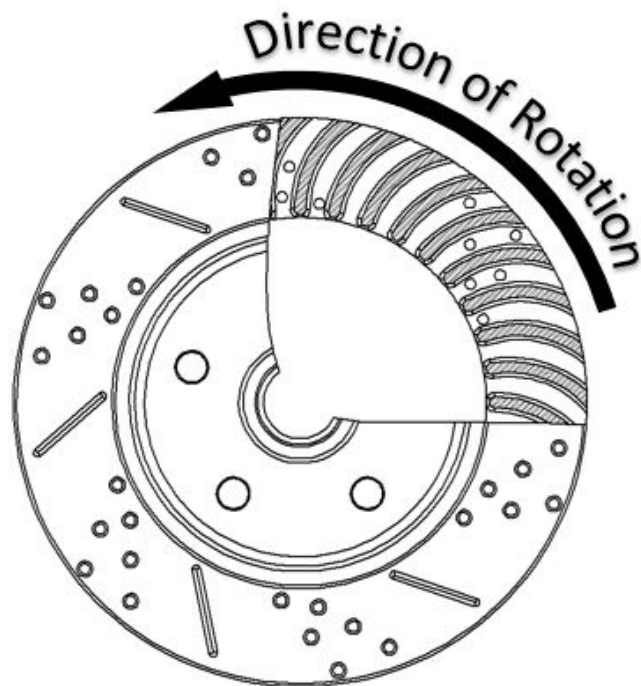
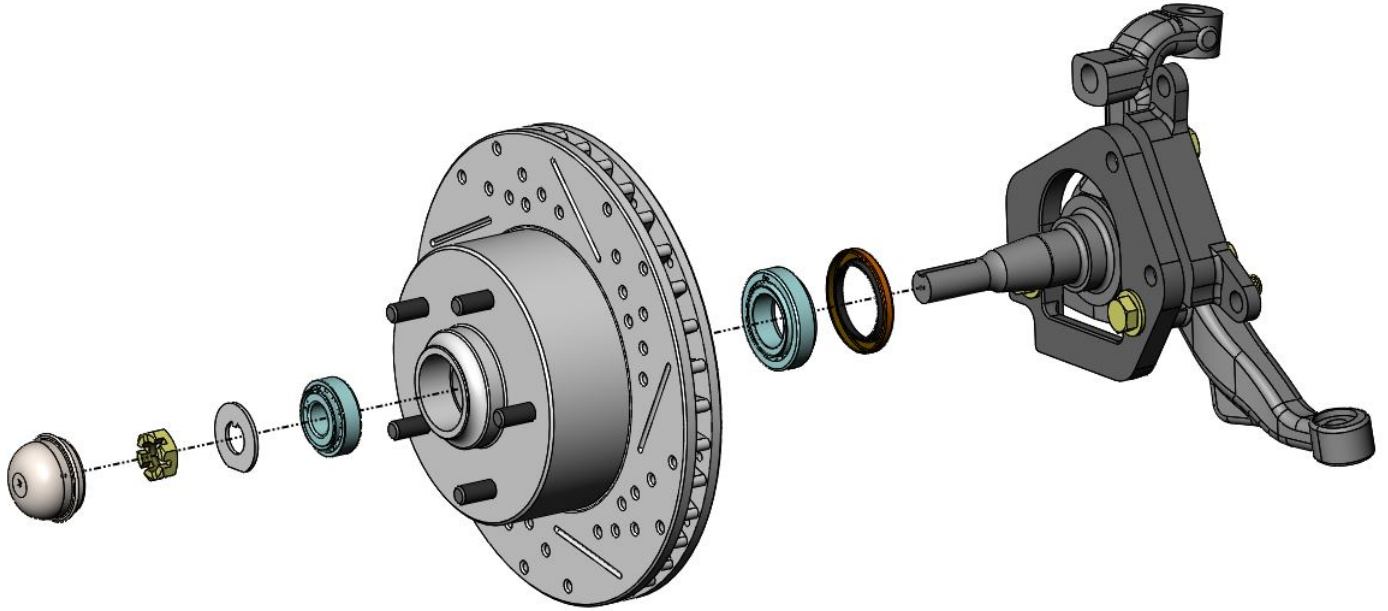

Figure 4 – Direction of Rotor Rotation
Figure 5 – Rotor Installation (Driver Side F-Body Spindle/Steer Arm Shown Above)
7. With the brackets assembled on the spindle, slide the rotor onto the spindle. The new rotors come with premium bearings pre-installed and packed with Red Line Synthetic wheel bearing grease. **NOTE:** It is not necessary to add more grease. Apply a small amount of grease to the hub sealing surface and install the rotor assembly. Using the new castle nut along with the nut retainer, tighten the nut to 5-10 ft/lbs. Loosen the nut and tighten the nut again using the same 5-10 ft/lbs. Do this a couple of times spinning the rotor to fully seat the wheel bearings onto the spindle. Loosen the nut a final time and re-tighten to remove all play. Tighten approximately an additional 1/16th of a turn to give the appropriate pre-load and line up the cotter pin hole. Install the cotter pin and dust cap. See Figure 4 below for correct placement of left and right rotors and Figure 5 on the next page for additional information on the rotor installation.